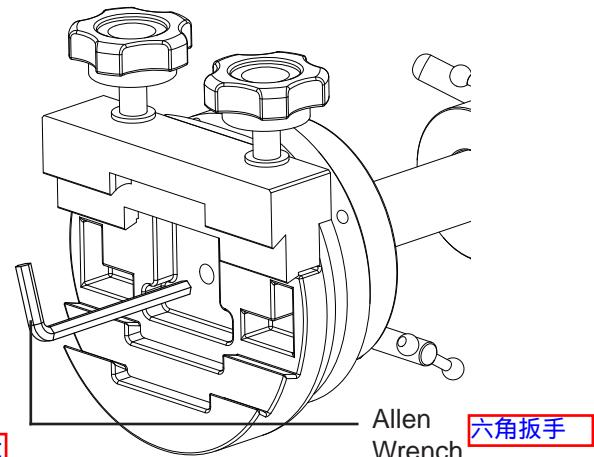

Fig. 2.5b
3. 使用5mm六角扳手通过底座中间孔处六角螺丝将底座安装到配重杆上(图. 2.5b). 再用扳手固定好银色圆环上的六角螺丝。
3. Use a 5mm Allen wrench to secure the saddle to the counterweight rod with the Allen screw in the central hole of the saddle (Fig. 2.5b). Also tighten the Allen screw on the silver ring with the same wrench.